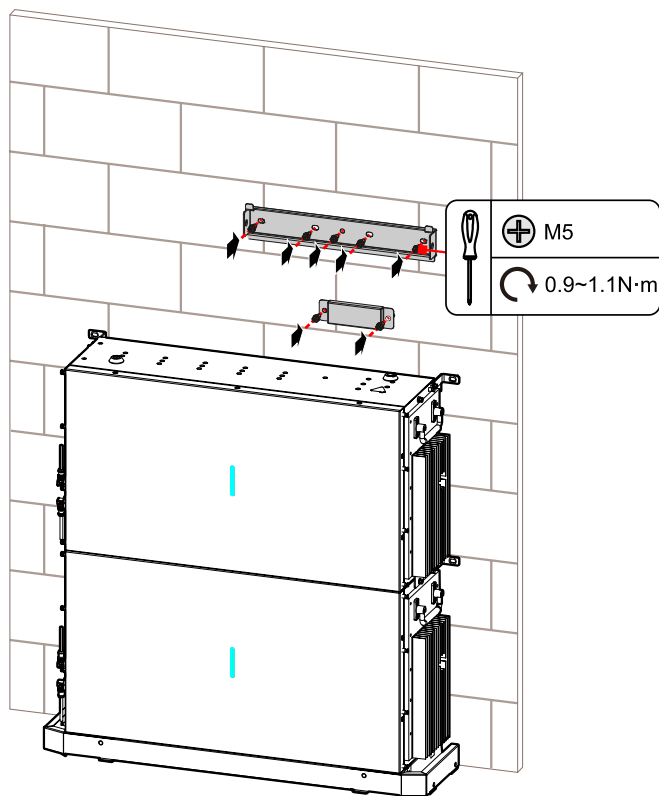

Figure3-30 Install inverter wall bracket
3. Attach the wall bracket to the wall using seven M5 Self-tapping screws with the tool of screwdriver, as shown in Figure3-30.